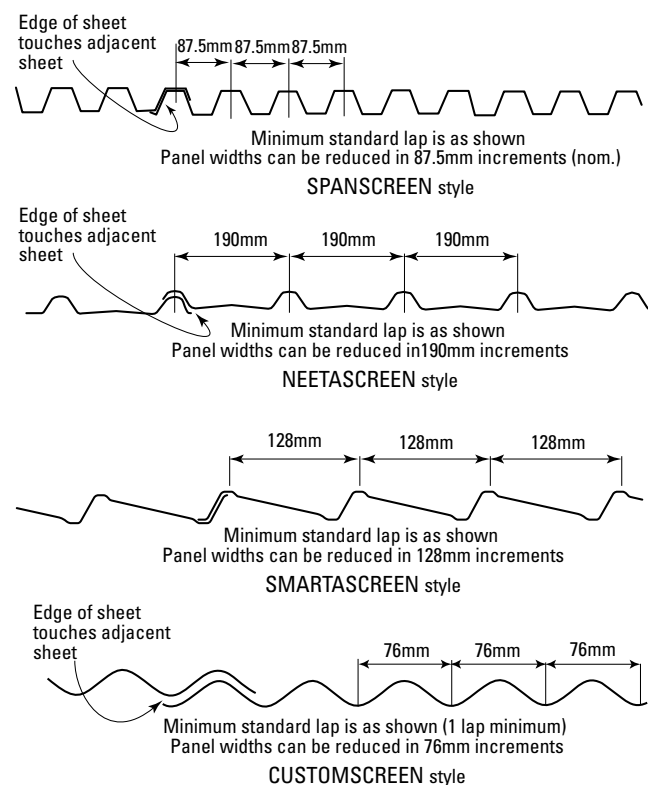
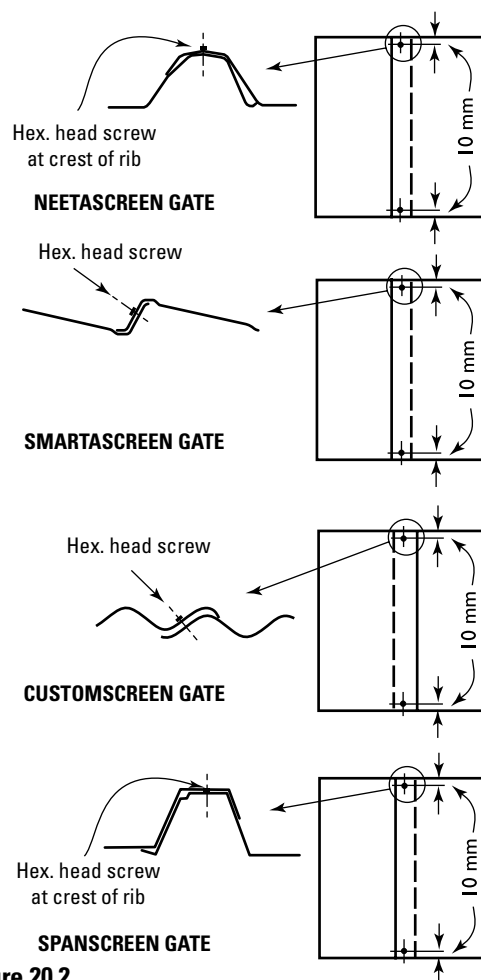

Figure 20.1
Figure 20.2
- 2) For extra-wide gates: overlap sheets to the desired width (Figure 20.1). Join the two sheets with hex. head screws (#10–16 x 16), through the overlaps, at both top and bottom edges (Figure 20.2).